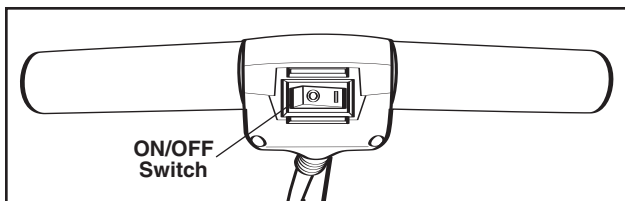

Figure 2. Orbiter® Multi-Floor Machine On/Off switch
The on-off switch is located on the handle. It has been designed to be conveniently activated. On (I) - Off (O) is printed on the switch. (See Figure 2.) BE CAREFUL that the switch is in the OFF (O) position before you plug the electrical cord into the outlet. Before turning the machine on, be sure there is a bonnet pad or brush in place on the machine.